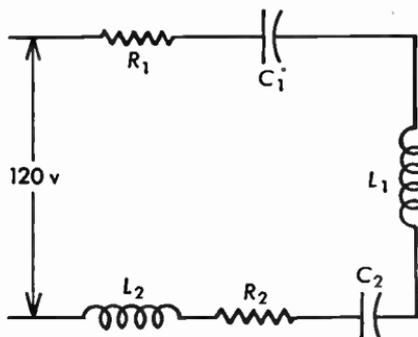

Fig. 3.13 Impedance elements in series.
3.13 In Figure 3.13, $R_1 = 300$ ohms, $R_2 = 210$ ohms; the reactances of the other circuit components are: